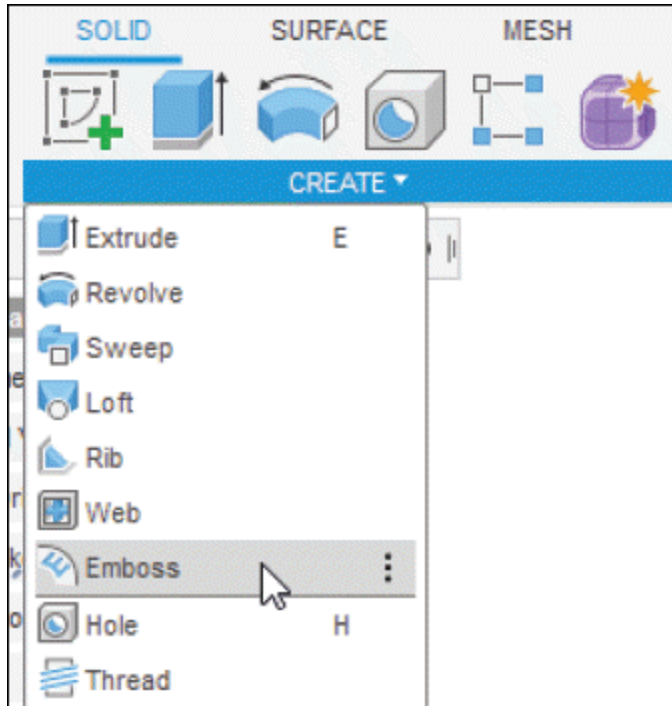
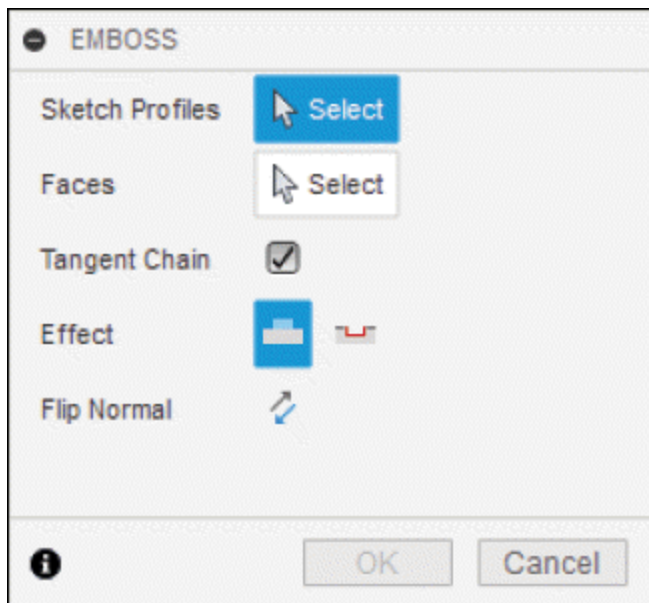

Figure-34. Emboss tool
Figure-35. EMBOSS dialog box
- Click on the **Emboss** tool from **CREATE** drop-down of **SOLID** tab in the **Toolbar**; refer to Figure-34. The **EMBOSS** dialog box will be displayed; refer to Figure-35.